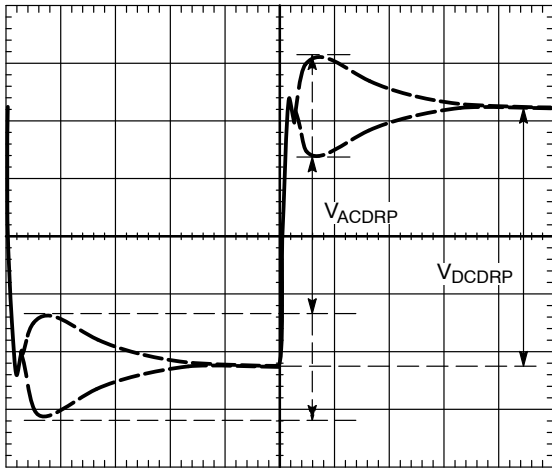

Figure 13. AC Load Line Waveform
14. Measure the output waveform (use dc offset on scope to see the waveform). Try to use a vertical scale of 100 mV/div or finer. This waveform should look similar to Figure 13.
15. Use the horizontal cursors to measure V_{ACDRP} and V_{DCDRP} as shown in Figure 13. Do not measure the undershoot or overshoot that happens immediately after this step.